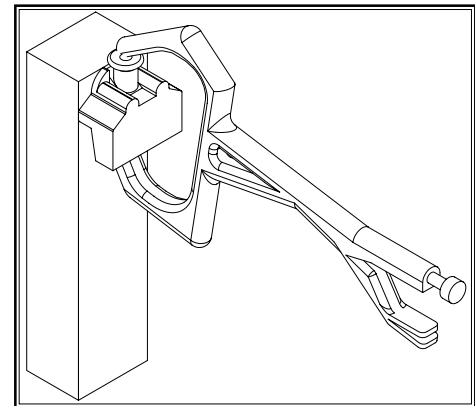
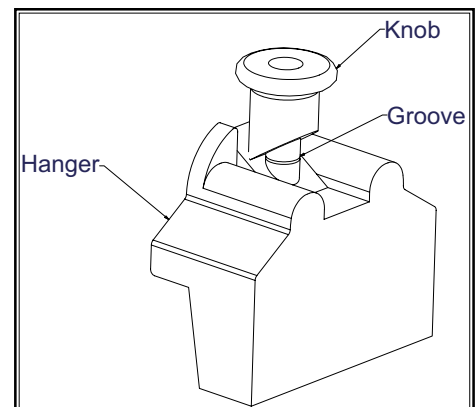

Figure 3
Figure 4
- 6) The knob is then placed on the end of the pin as it will be squeezed into place with the vice grips as shown in Figure 3. The end of the knob should reach the groove inscribed on the pin, as shown in Figure 4.